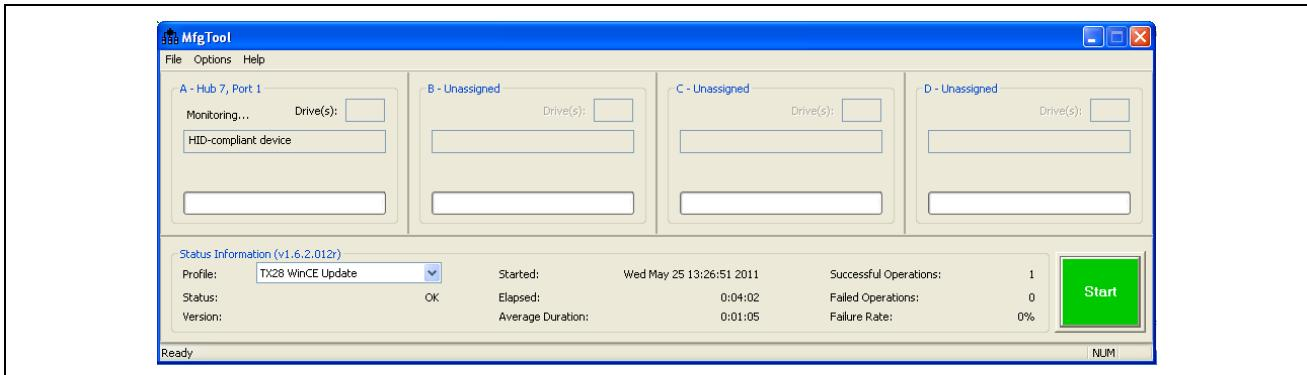

Figure 8      MfgTool Connected
- 13 If the sensor node is detected the Monitoring... text control should display "HID-compliant device" as shown in Figure 8.